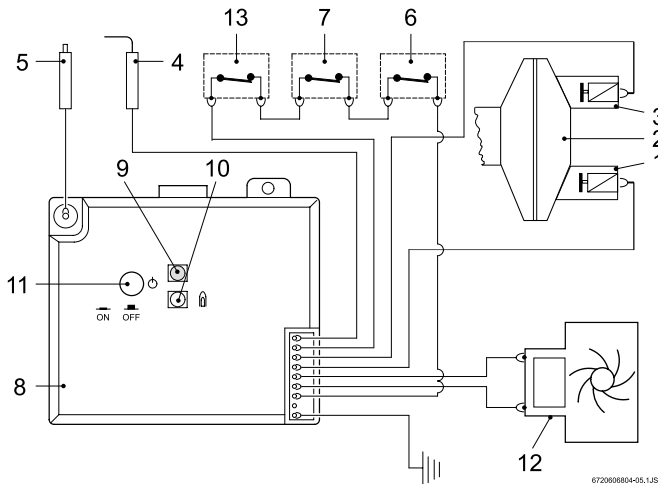

Fig. 13 - Electrical wiring diagram
4. Pilot electrovalve switch may need to be replaced (See Fig 13).
5. Electronic Control Box may need to be replaced (See Fig 13).
4. The Electronic Control Box (Fig. 13) may need to be replaced.